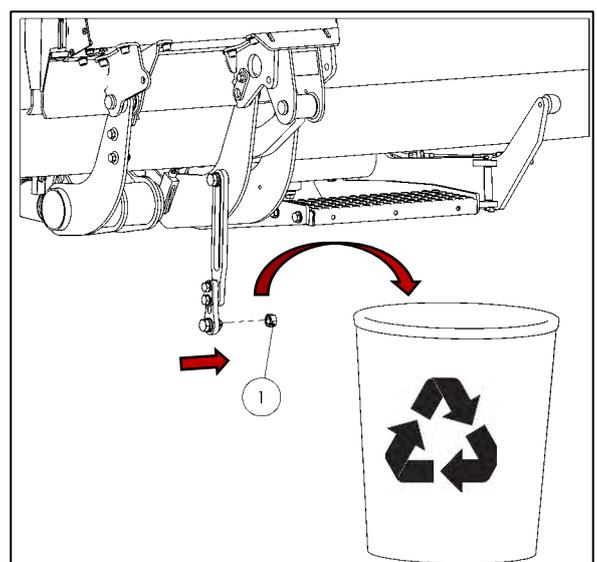

Figure 59
- Remove and properly dispose of the nut on the transport lock (1) (see Fig. 59).